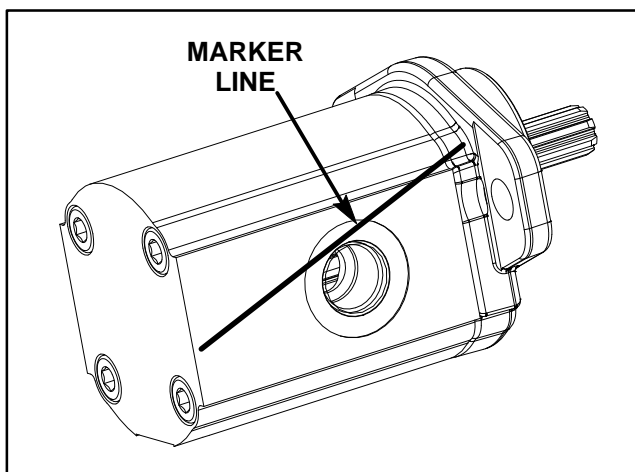

Figure 60
2. Use a marker to make a **diagonal** line across the front cover and body for assembly purposes (Fig. 60).